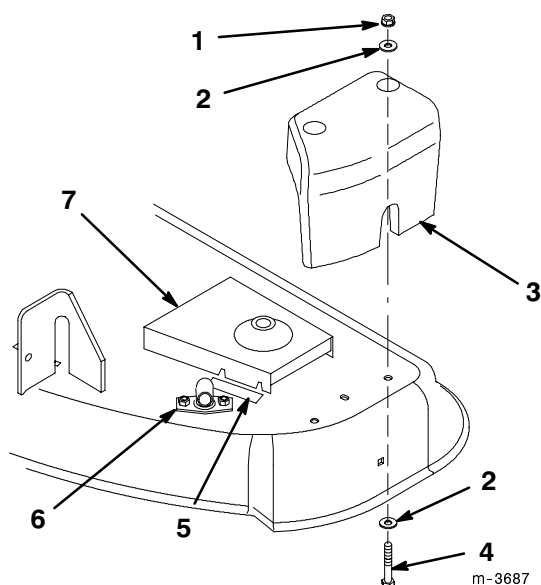

Figure 5
1. Position the mower deck counterweight on the left-hand side of the mower so that it fits snugly against the side of the mower (Fig. 5).
2. Using a punch in the holes of the counterweight, mark the location for drilling (2) 13/32" holes. Remove the counterweight and drill the holes.
3. Secure the counterweight to the top of the mower deck with (2) 3/8 x 2-1/4 (57 mm) bolts, (4) 3/8" (10 mm) flat washers, and (2) 3/8" locknuts.